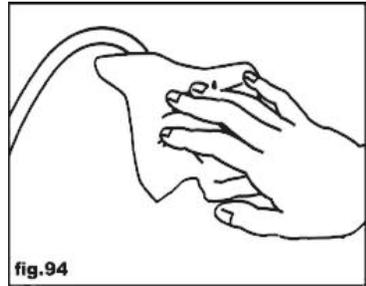

fig.94
-Hold a rag over the paint hose outlet (fig.94)